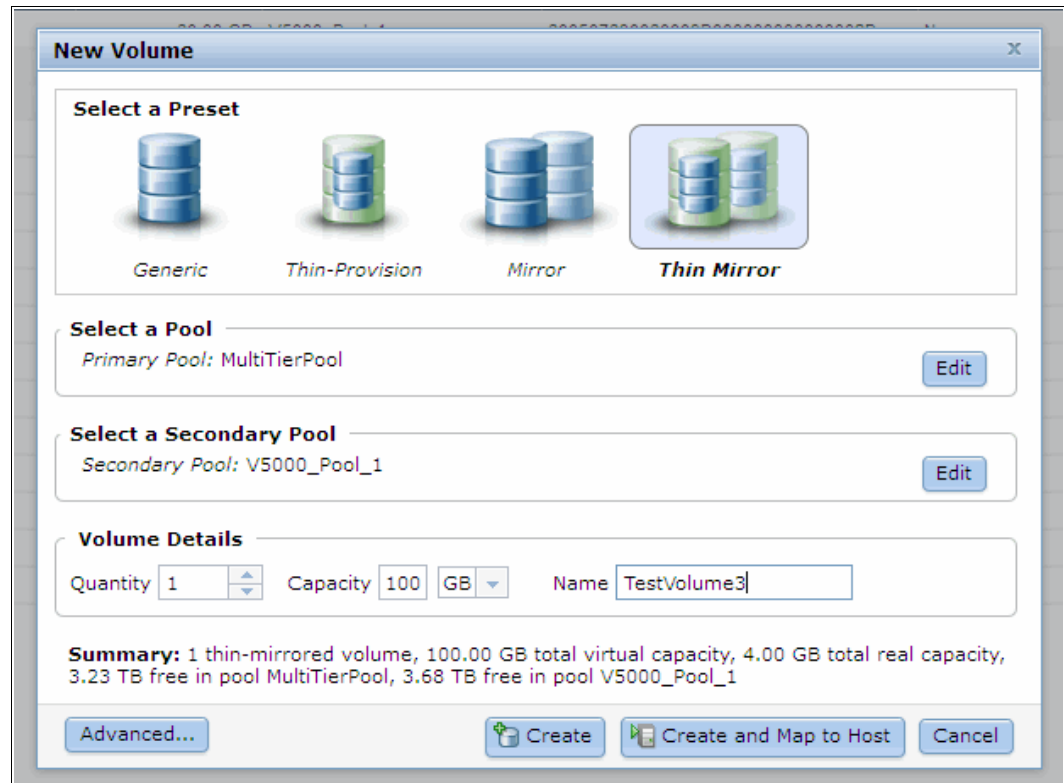

Figure 5-19 Enter a volume name and size
3. Select the pool for the secondary copy and enter a name and a size for the new volume, as shown in Figure 5-19.